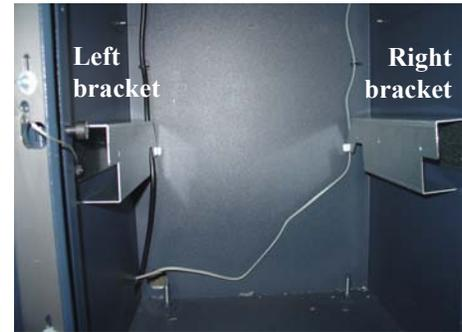

Figure 1. Mount brackets to cabinet.
1. Slide the tray mount brackets [P/N 03011-00680 (L) and 03011-00681(R)] fully over the **lower** mounting bolts (Figure 1). Ensure the grounding strap is connected and tighten all the hex nuts with an 11/32" nut driver. Make sure the mounting brackets are seated fully on the mounting bolts.